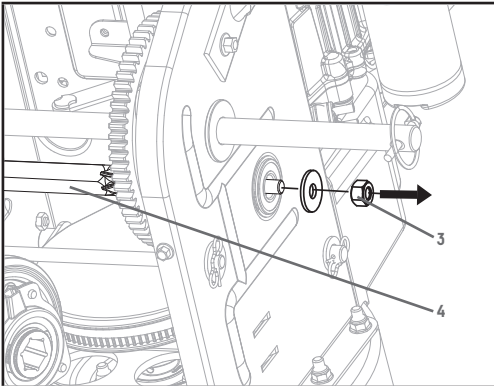

Figure 28
- Carefully remove the M10 hex nut (3) which secures the hex shaft (4) to the snowblower frame and lightly tap the shaft's end to dislodge the ball bearing from the right side of the frame (Fig. 28).